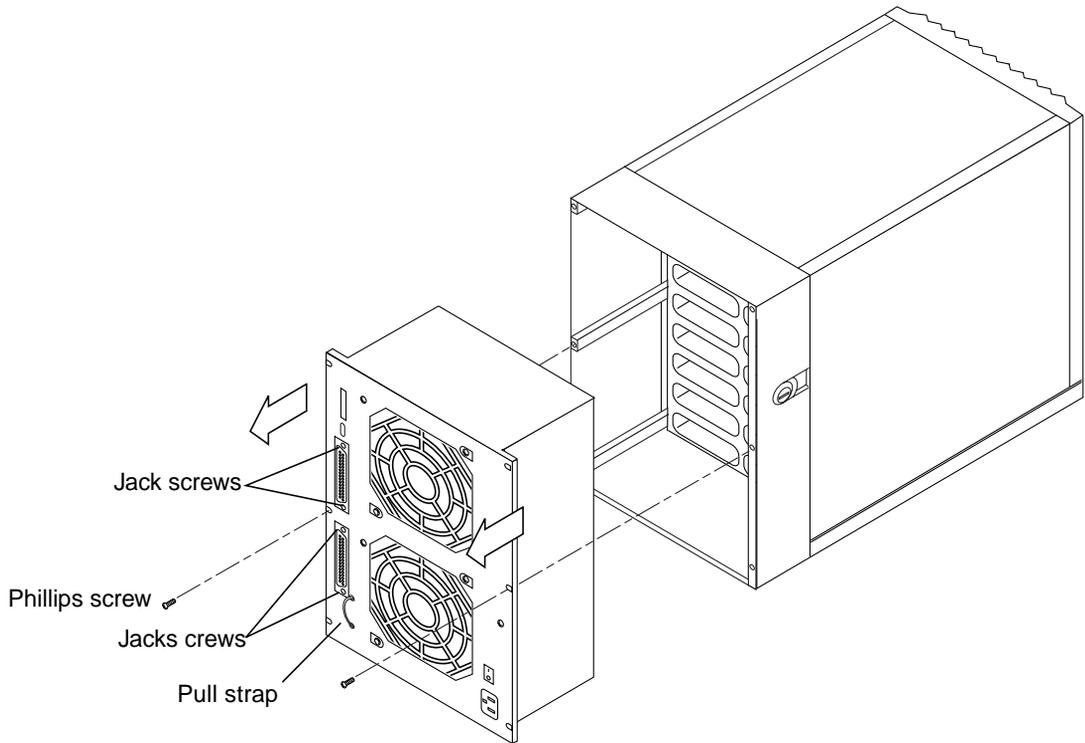

FIGURE 2-5 Removing the Power Supply
5. Remove the two Phillips screws that attach the power supply to the unit (FIGURE 2-5).
6. Remove the four 3/16 inch jackscrews that secure the board to the power supply (FIGURE 2-5).
- 3. Insert and tighten the four jack screws to secure the board to the power supply (FIGURE 2-5).**
- 4. Insert and tighten the two screws to secure the power supply in the enclosure (FIGURE 2-5).**